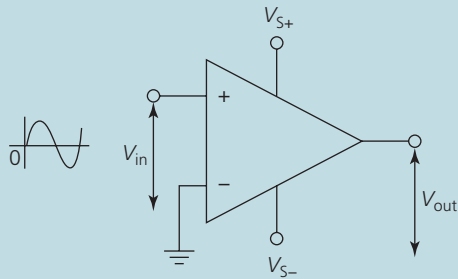

Figure 4
2. The circuit in Figure 4 shows an op-amp with the inverting output connected to ground and an alternating voltage applied to the non-inverting input. Sketch the graph of V_{out} against time that you would expect to see, and explain the operation of the circuit.